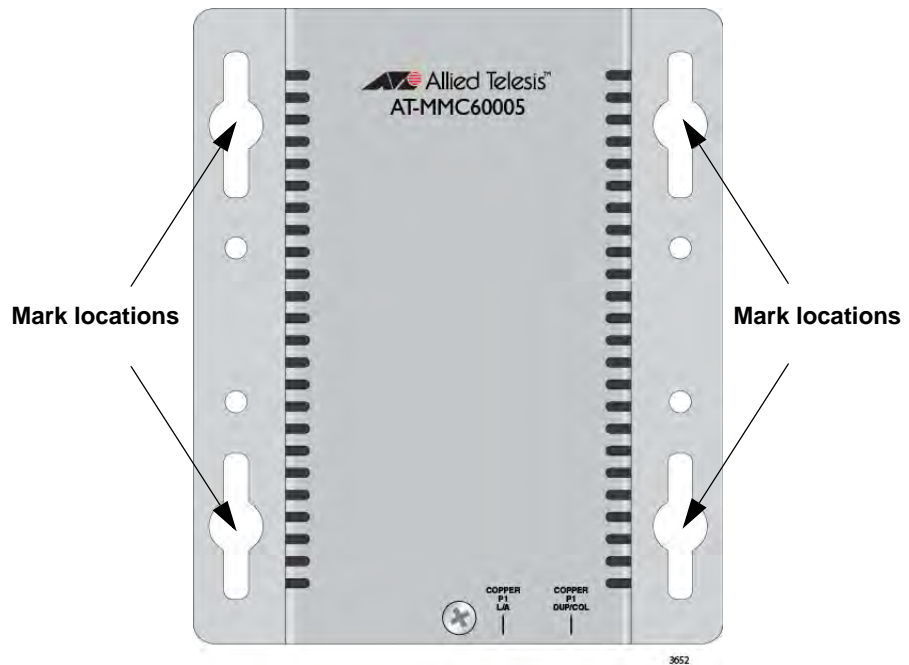

Figure 22. Marking the Screw Hole Locations
5. Position the unit and its brackets on the wall. Use a pencil or pen to mark the wall with the locations of the four holes in the brackets. The unit should be oriented as shown in Figure 22.